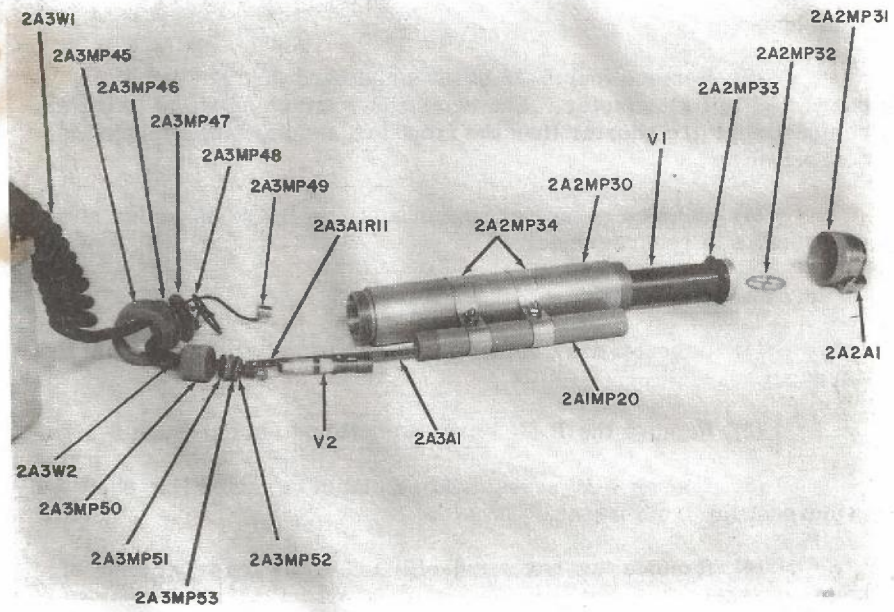

Figure 6-2. Radiac Probe DT-613/PDR-27S Disassembled
a. Tube Replacement. Both tubes are housed in the probe. V1 is a type 5979 Geiger-Mueller tube and is the low range (0.5 and 5 mR/hr) detector. V2 is a type 5980 Geiger Mueller tube and is the high range (50 and 500 mR/hr) detector. Refer to Figure 6-2.